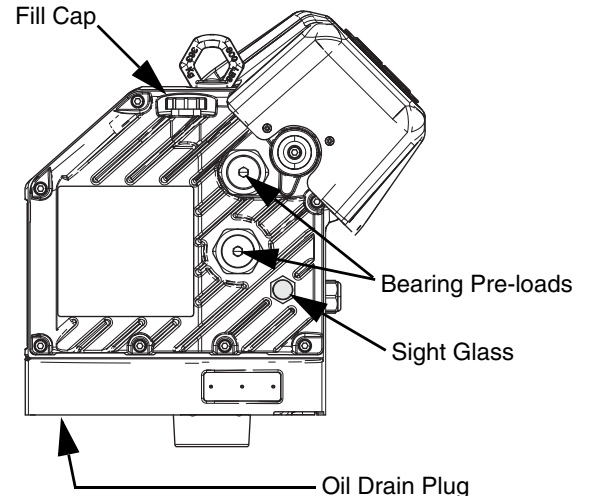

FIG. 13: Sight Glass and Oil Fill Cap
3. Remove the oil drain plug. See **Figure 13** for the location of the drain plug. Allow all oil to drain from the driver.
Refer to **Figure 13** below. Check the oil level in the sight glass on a regular basis. The oil level should be near the halfway point of the sight glass when the driver is not running. If the oil is low, open the fill cap and add Graco Part No. 16W645 ISO 220 silicone-free synthetic EP gear oil.